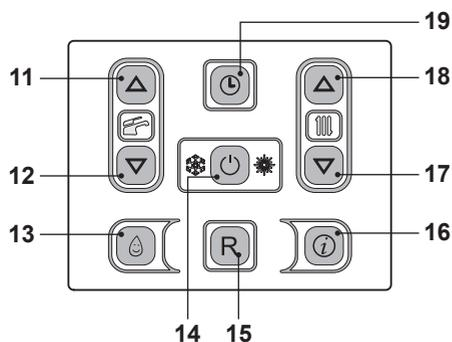
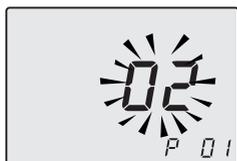

Fig. 8.3
Fig. 8.4
- Enter in "programming mode" by pressing keys 14 - 17 - 18 (Fig. 8.3) for 10 seconds at the same time until the letters **P01** are displayed on the LCD display, indicating that "parameter 01" (Fig. 8.4) has been activated.
- By pressing key 14 (Fig. 8.3) confirmation of the inserted value is obtained.
- Press keys 17 or 18 (Fig. 8.3) to exit without changing the value.